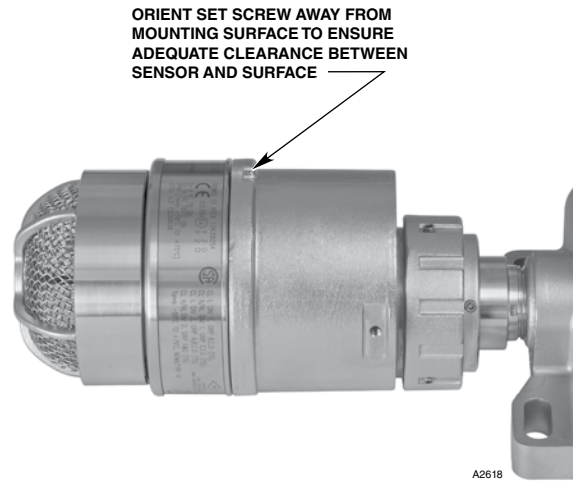

Figure 8—AC100 Connected to Termination Box (M25 Model Shown)
2. When the sensor gets tight, note the position of the set screw on the sensor housing. It should be oriented away from the mounting surface to ensure adequate clearance between the sensor and mounting surface. See Figure 8.
5. Insert the sensor wires through the connector assembly into the termination box, then secure the sensor to the termination box by tightening the ring on the connector assembly. Prior to tightening the ring, orient the sensor with the set screw away from the detector mounting surface to ensure adequate clearance between the sensor and mounting surface. See Figure 8.